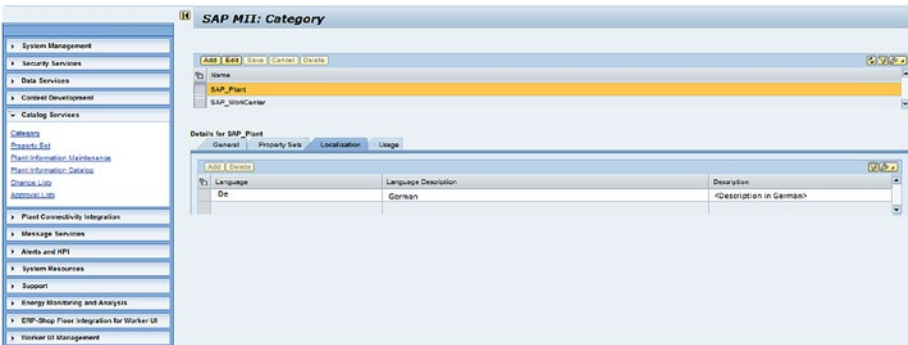

Figure 7-110. Category Localization screen
2. In the Localization tab, different languages can be specified and, depending on the user Locale, the category description can be changed. See Figure 7-110.